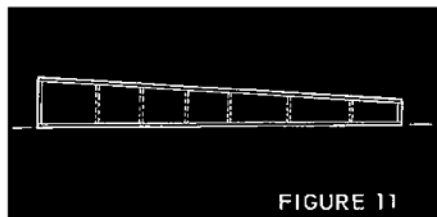

FIGURE 11
Step 5. Glue left side to top edges of tail and nose blocks as in Fig. 11.